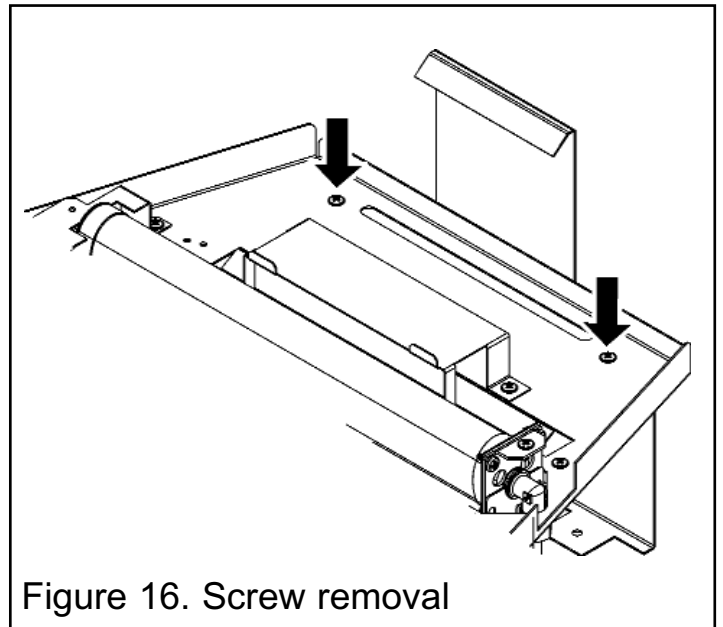

Figure 16. Screw removal
- Without disturbing the burner, remove the two screws at the rear of the burner tray (See figure 16). These secure the rear ceramic support bracket to the burner tray.
- Remove the two screws at the rear of the burner tray (See figure 16). These secure the rear ceramic support bracket to the burner tray. Remove the ceramic support bracket and screw it to the convector box floor through the two holes drilled previously.